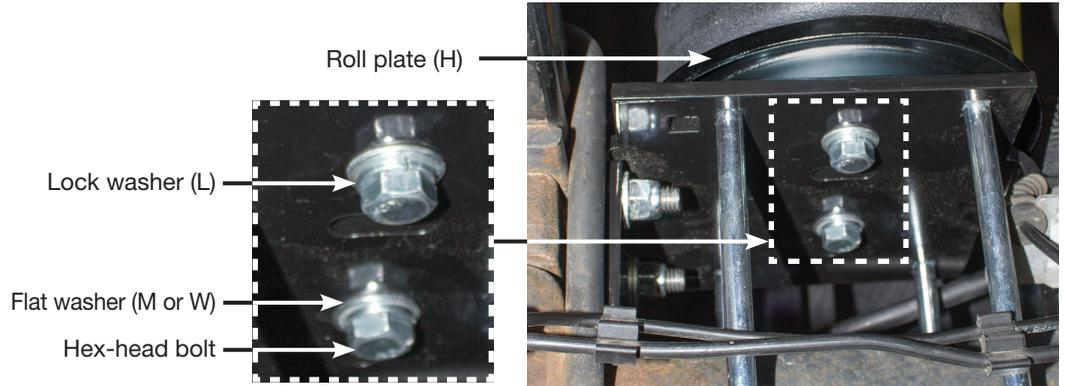

fig. 20
- Looking below, line up the hole in the roll plate with the air spring and attach using the 3/8" hex-head bolt (K), lock washer (L) and flat washer (M or W) (Fig. 20). Repeat for the other mounting hole in the bracket. Since it will be hard to torque this bolt, unless using a crows foot wrench adapter, just tighten the hardware securely (no more than 20 lb.-ft. [27Nm]). Repeat for the other side.